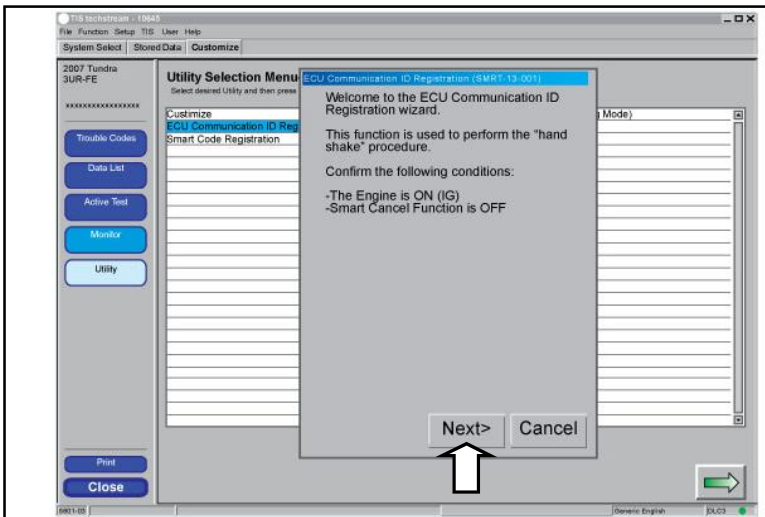

Fig. 5-13
- (y) Confirm that the Engine is ON (IG), and that the Smart Cancel Function is OFF. (Fig. 5-13)
- (z) Click “Next>” to continue. (Fig. 5-13)